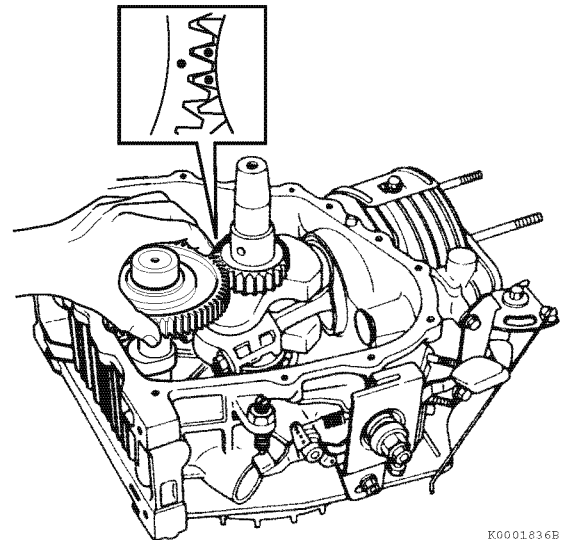

Figure 6-42
- Identify the location of the camshaft gear and crankshaft gear alignment marks (**Figure 6-42**). These marks are important for reassembly.